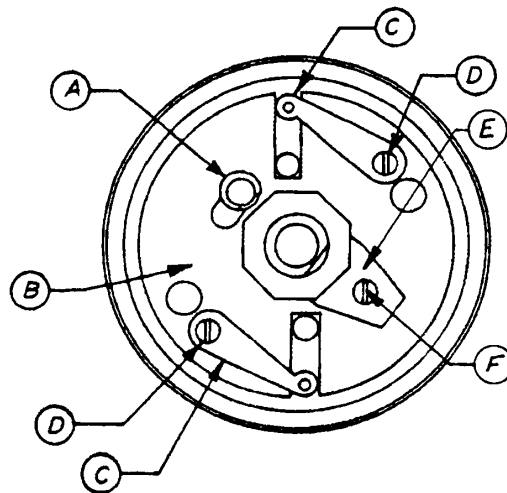

Figure 1 – Distributor Bowl
- i. Remove circlip and washer (Item A, Fig 1) from the centrifugal advance plate (Item B, Fig 1).
- j. Remove the centrifugal advance plate (Item B, Fig 1) from the distributor.
- m. If adjustment is required loosen screws (Item D, Fig 1) so advance control arms (Item C, Fig 1) can be moved.
- n. Push control arms (Item C, Fig 1 or 2) tight against advance key and tighten screws (Item D, Fig 1 or 2) using Loctite 262.